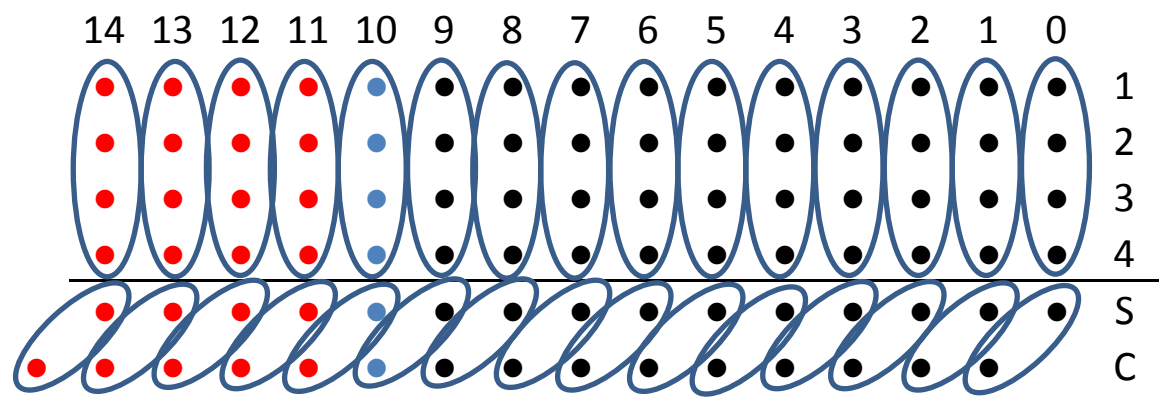
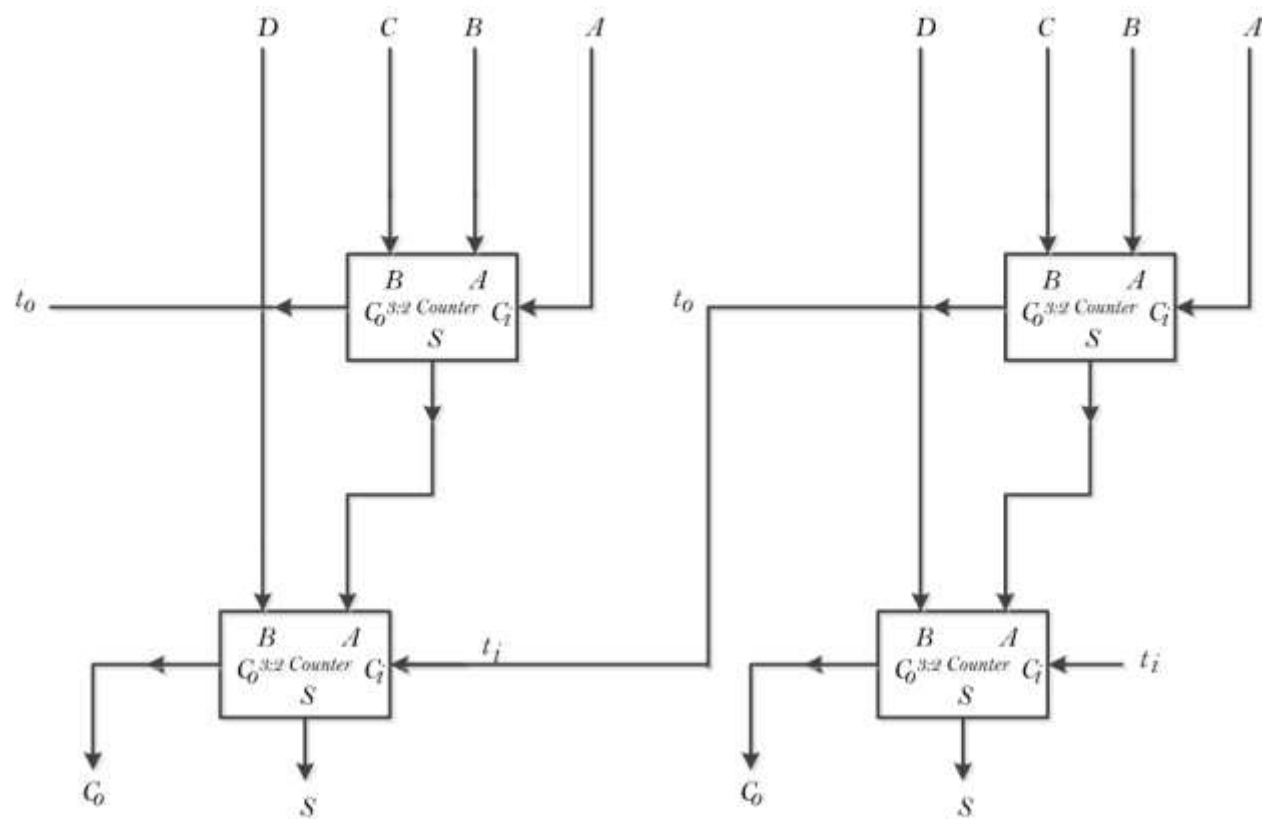

Figure 2 14 bits 4:2 carry save adder
Figure 3 4:2 Counter
Implement the carry save adder circuit shown in *Figure 2 14 bits 4:2 carry save adder*. Build a project using ISE that implement this circuit. The 4:2 counter is composed of two full adders as shown in *Figure 3*. Reuse the Full Adder component from LAB assignment 1 to build this circuit.
2. The system should add sign extension bits (Red dots in *Figure 2*).